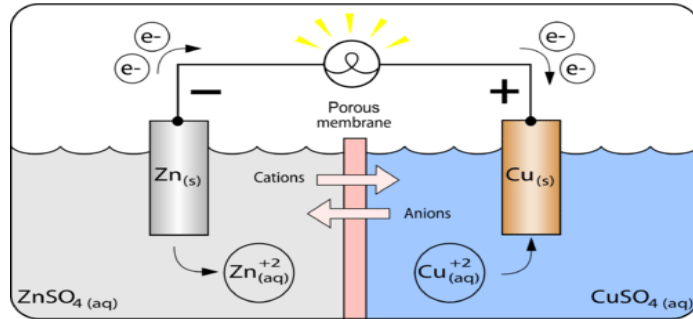

Figure 4(b) / Rajah 4(b)
- (b) Figure 4(b) below shows the electron loss of a metal reacting with another metal in an electrolyte.
- i. Assign the type of corrosion shown in Figure 4(b).